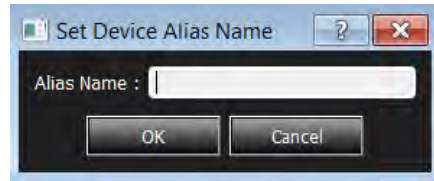

Figure 2.53: Assign Alias Name
1. Select **Setup** → **Device Management** → **Set Device Alias Name** (Figure 2.53).